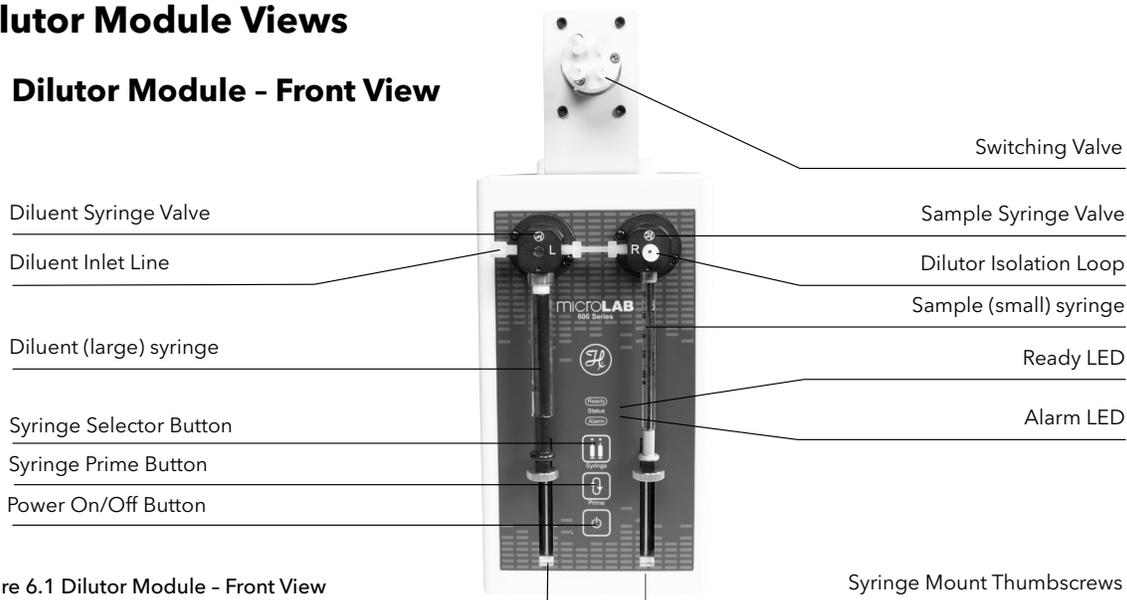

Figure 6.1 Dilutor Module - Front View
3. Make the Dilutor Module plumbing connections: (refer to Figure 6.1)